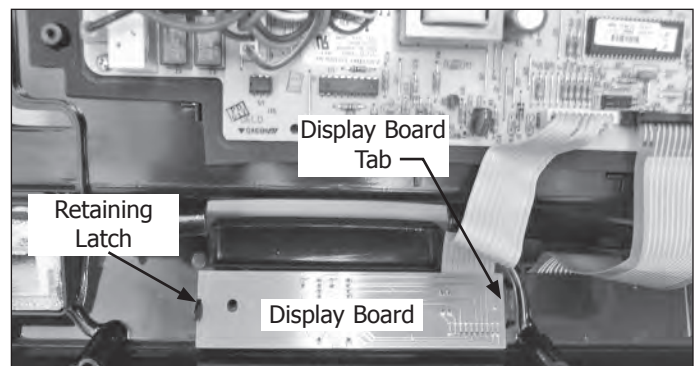

Figure 4-7.
6. Push back retaining latch and pull display board out from under the retaining latch, then pull display board to the left until the tab is free of the console. (See Figure 4-7)